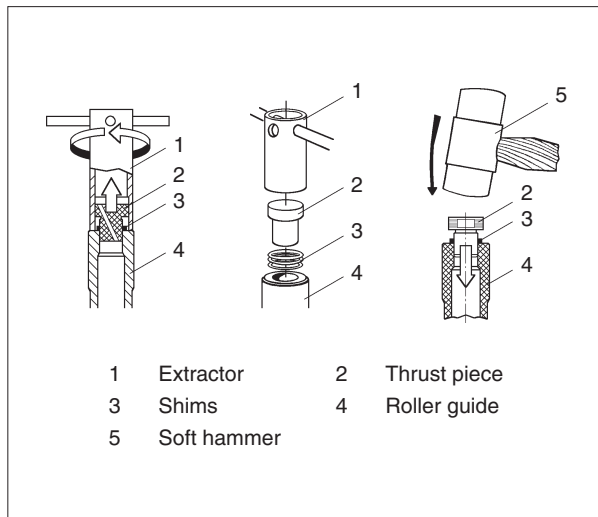

Fig 5
After replacement of shims the thrust piece is re-mounted, see fig 5, in the roller guide (4) with a soft hammer (5).